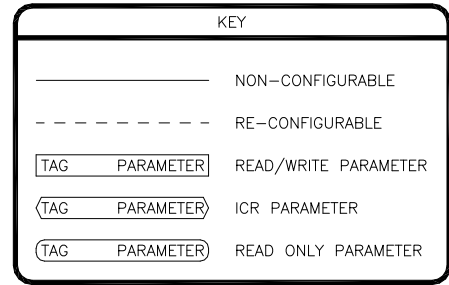

Figure 12
Programming and adjustment of the Trooper® Pro is accomplished by changing parameter settings. Each parameter has a Tag identifier and a descriptive name. Parameters are separated into groups and blocks according to their function. The following sections contain each software block diagram and descriptions of each parameter function. Refer to Figure 12 for key conventions that are used in the block diagrams. Each parameter is one of three types: Read-Write (RW), Inhibit Change while Running (ICR), or Read-Only (RO). ICR parameters can be changed only when the drive is not running.